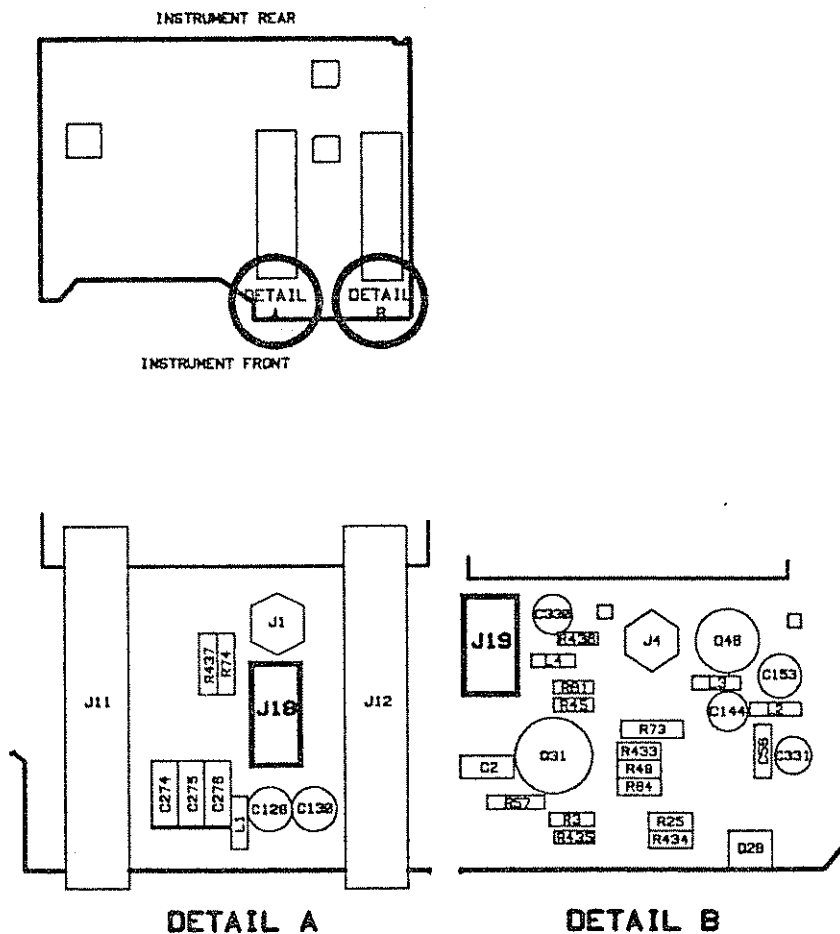

Figure 2-3. Channel 1 and Channel 4 DC Cable Locations
1. Set the rear panel line switch to OFF (O).
6. Depending on the channel in question, disconnect the cable at A1J18 (W26; CH 1) or A1J19 (W23; CH 4) on the A1 Control Board. See figure 2-3.